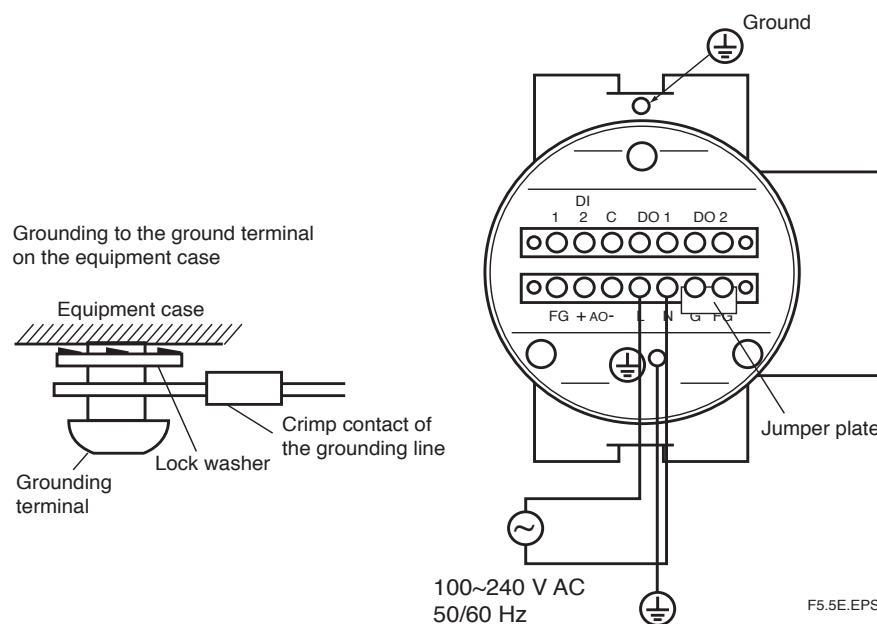

Figure 5.5 Power and Grounding Wiring
- (1) Keep the ground resistance of 100Ω or less (JIS Class D grounding).
- (2) When connecting the ground wiring to the ground terminal of the equipment case, be sure that the lock washer is in contact with the case surface (see Figure 5.5).
- (3) Ensure that the jumper plate is connected between the G terminal and the FG terminal of the equipment.
- (4) The size of external ground screw thread is M4. Each cable should be terminated corresponding crimp-on terminals.